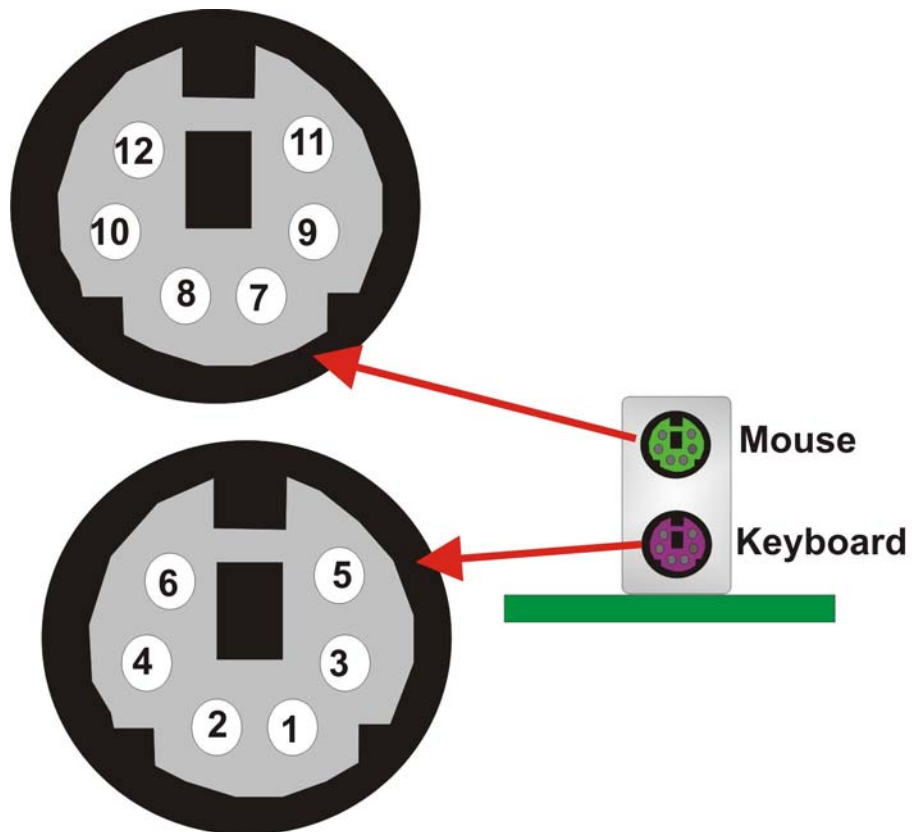

Figure 4-18: PS/2 Pinouts
- CN Pinouts:** See Figure 4-18 and Table 4-17